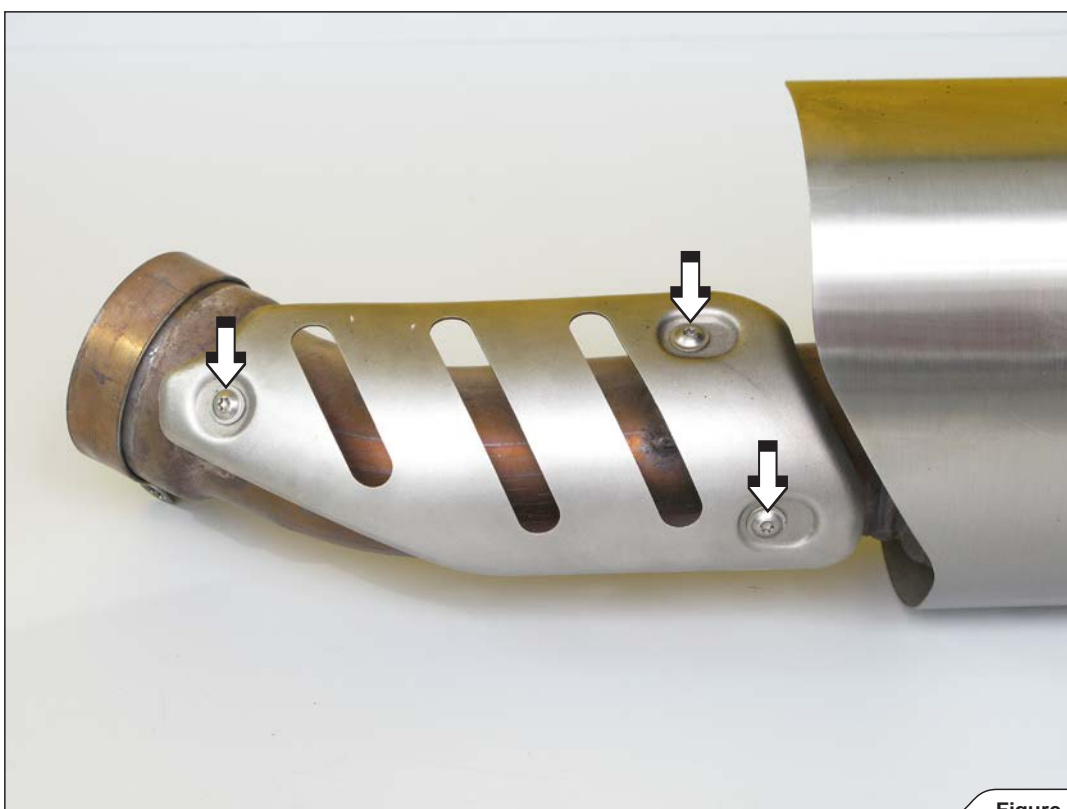

Figure 2
3. Unscrew the marked bolts and remove the stock heat shield (**Figure 2**).